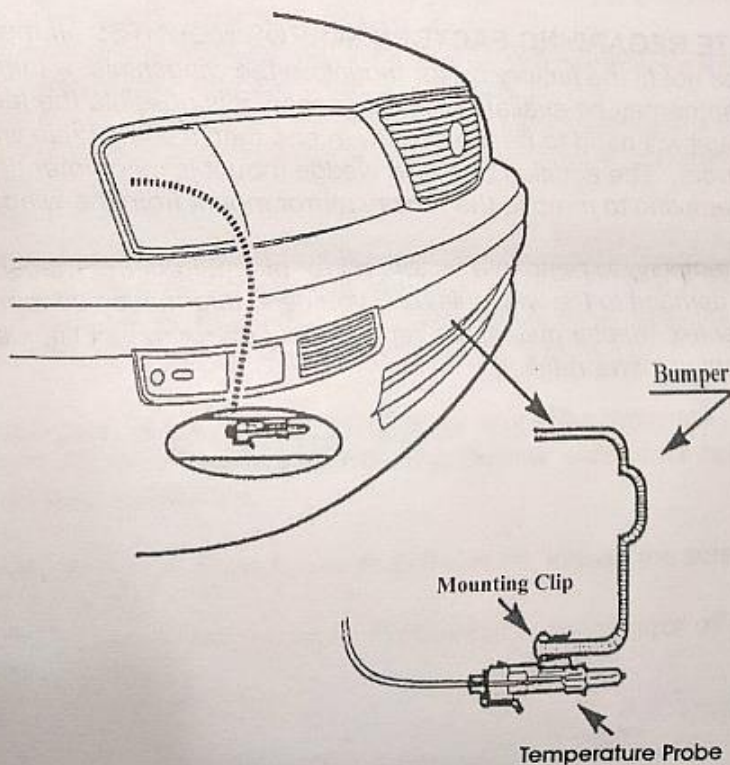

Fig. 5.5
- 5.5 Mount the temperature sensor probe. See figure 5.5